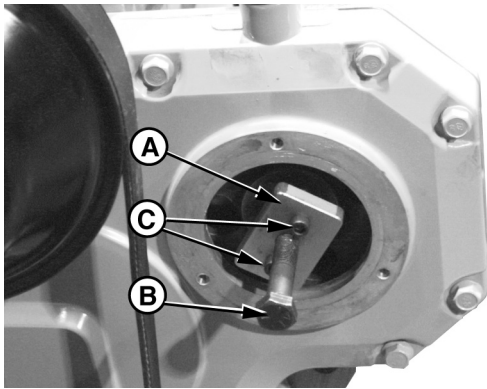

Figure 19 Reproduced by permission of Deere & Company, c.2004. Deere & Company. All rights reserved.
6. Attach JDG670A Drive Gear Puller (Figure 19-A) to injection pump drive gear as shown.
7. Evenly tighten the two 6mm, Grade 12.9 screws (threaded in drive gear) and snugly tighten center forcing screw (Figure 19-B) against end of pump shaft.
8. Tighten center forcing screw until pump drive gear is free from tapered shaft. Remove JDG670A puller (Figure 19-A) and screws from drive gear.